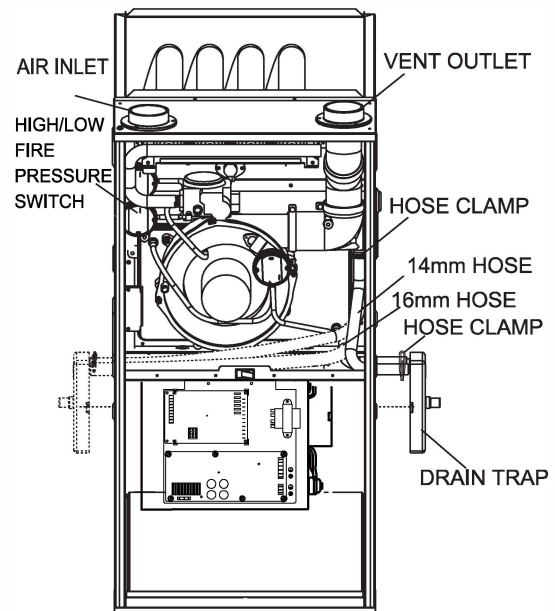

Fig. 6-7 Upflow Installation, Top Venting
- Connect 16mm hose between collector box and trap and connect 14mm hose between elbow and trap. (see Fig. 6-7). Cut the excess hoses if necessary.